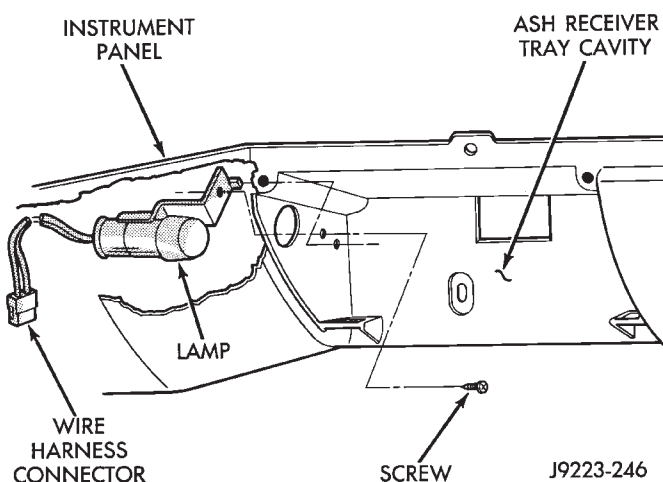

Fig. 11 Ash Receiver Tray Lamp
- (2) Remove the lamp retaining screw from the ash receiver tray cavity (Fig. 11).